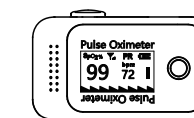
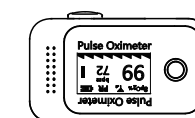

Figure 7
Figure 8
- Press the "POWER/FUNCTION" button to power on the device. Press it again to rotate the display orientation, as shown in **Figure 7** and **Figure 8**.